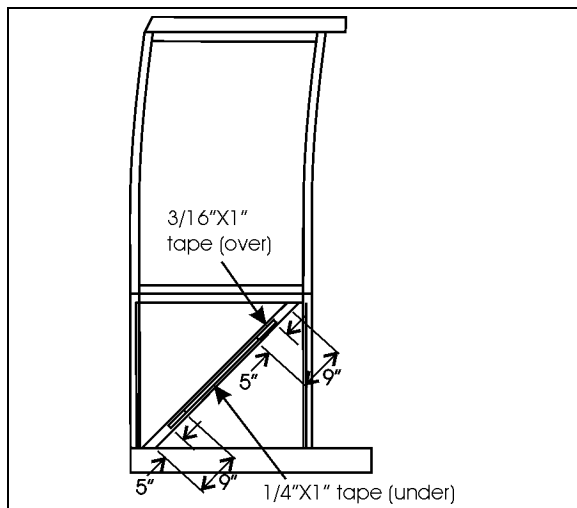

FIGURE 42 : SIDE PANEL INSTALLATION – DOUBLE FACE ADHESIVE TAPE APPLICATION ON THE SLIDE-OUT STRUCTURE (FRONT SLIDE-OUT ONLY)
2. Refer to figure 42 for 1/4X1 (#5060038) and 3/16X1 (#506207) double face adhesive tape location on diagonal member of front slide-out only. Do not remove the tape blue protective layer;